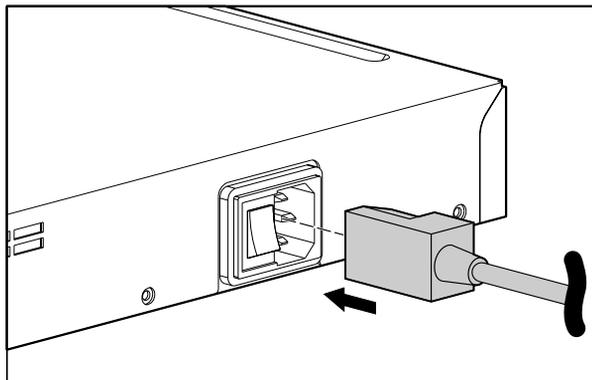

Figure 28: Connecting a power cord to the power connector
2. Plug the power cord into the power receptacle located on the rear panel in the chassis (see Figure 28).